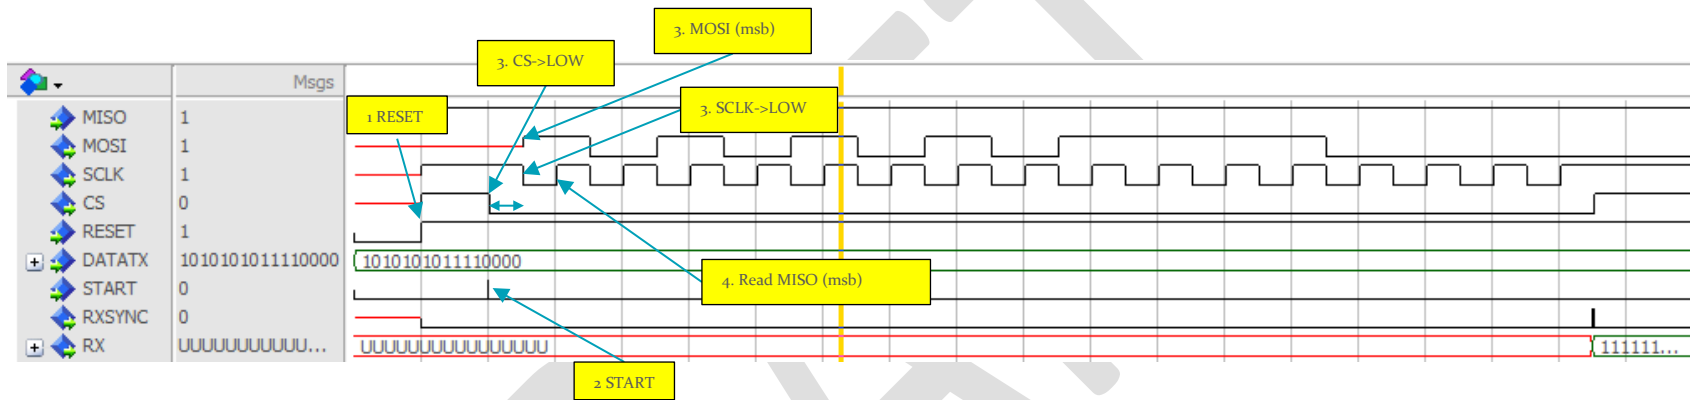
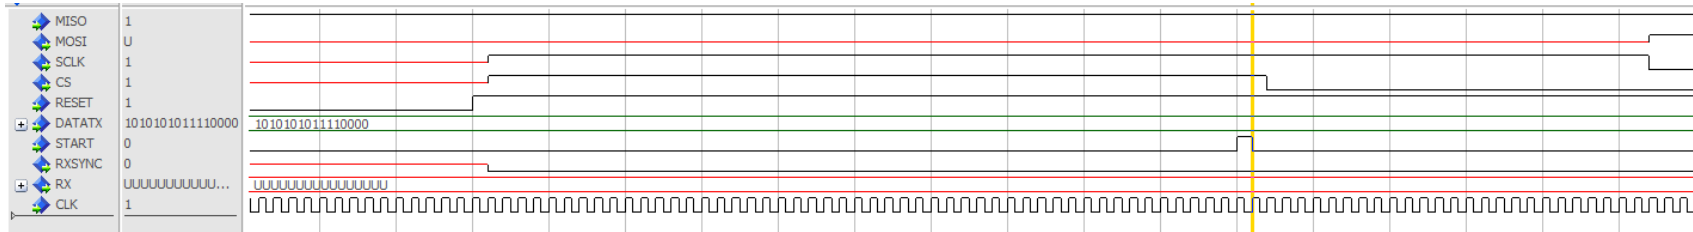

Figure 2 Showing a complete SPI transaction between the FPGA and the ADC. The FPGA is the SPI Master.
Figure 3. The SPI transaction begins when the START input is asserted HIGH.
- The analogue input is PIN24 of JP3 (see Figure 2 and Figure 3)